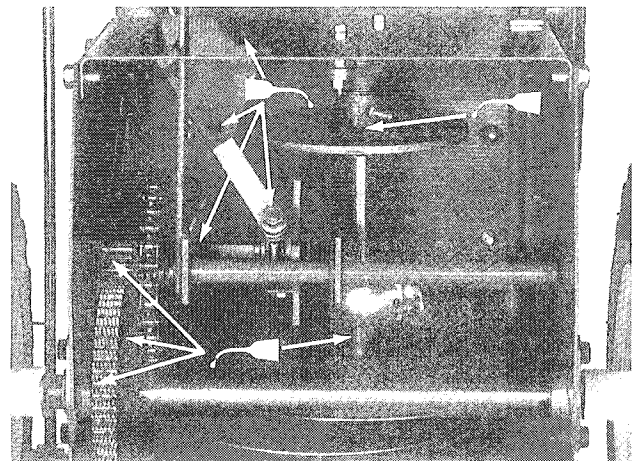

Figure 24
3. Remove (4) thread forming screws holding rear shield in place, and slide shield away from traction unit.
4. Lightly lubricate drive chains, sprocket bushing, nylon ring, hex shaft, and the other pivot points with light oil (Fig. 24).
5. Wipe up any excess oil and install rear shield with (4) thread forming screws.